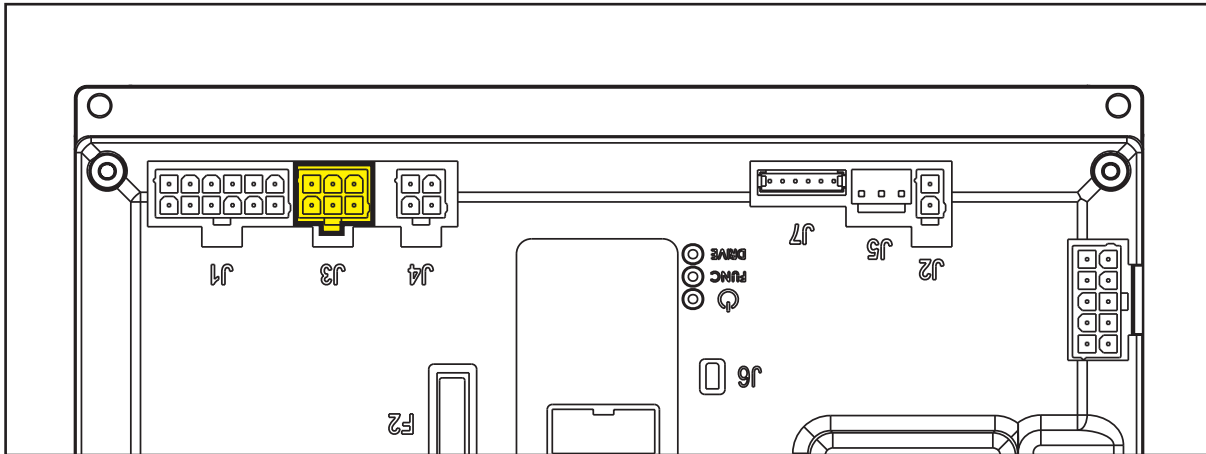

Figure 25
**(Figure 25) J3: MOLEX MINIFIT type, 6-ways vertical**